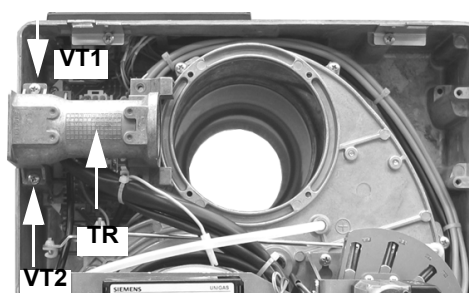

Fig. 15
- 6 Take the gas pipe **TR** off and put it in the new position fixing the screws **VT1** and **VT2** (Fig. 15).